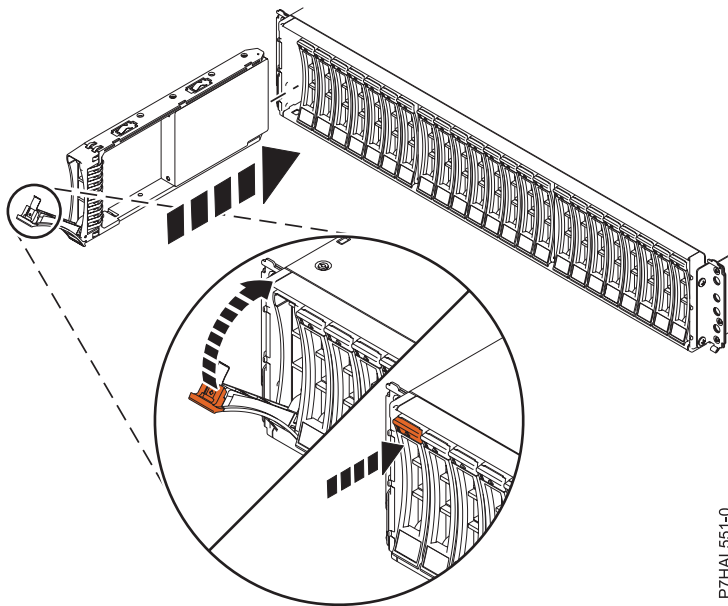

Figure 13. Installing the disk drive in the 5887 disk drive enclosure
1. With the handle in the unlocked position, see Figure 13, support the bottom of the drive as you align it with the guide rails in the expansion unit.